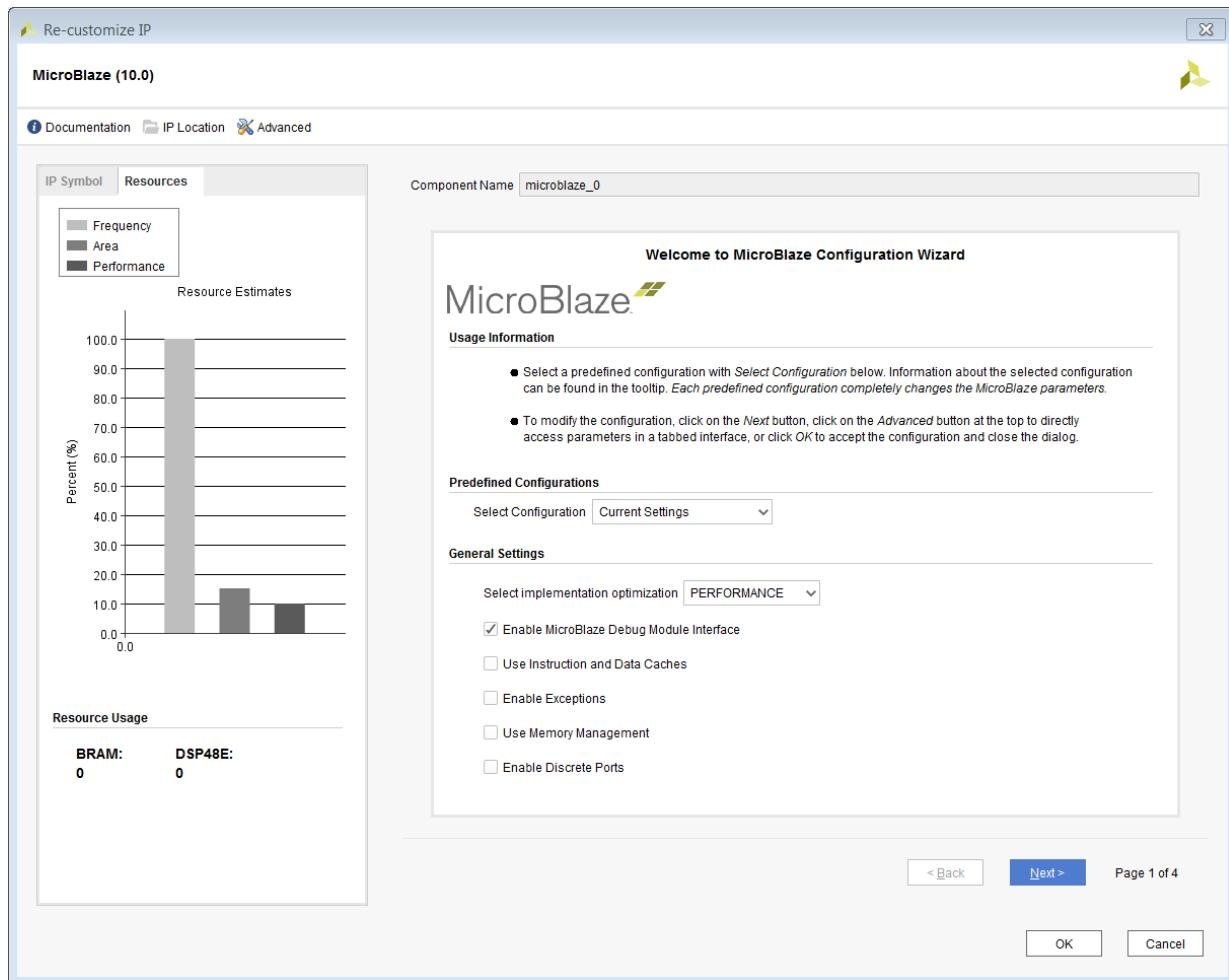

Figure 4-6: **MicroBlaze Configuration Wizard**
4. Double-click the MicroBlaze IP in the canvas to invoke the Re-customize IP process, which displays the Re-customize IP configuration page for the MicroBlaze processor, shown in Figure 4-6.